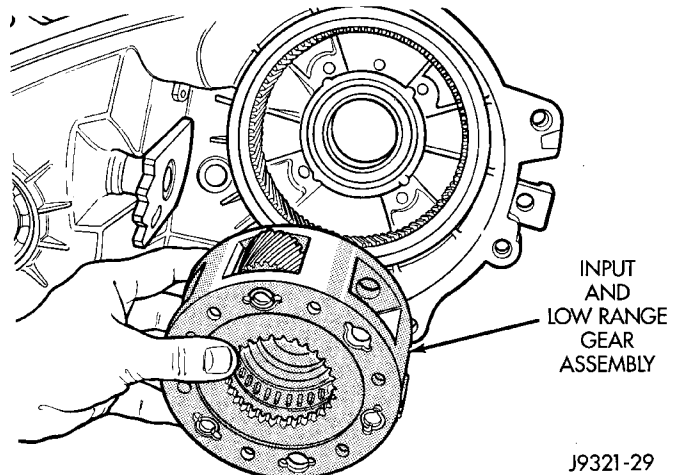

Fig. 37 Input And Low Range Gear Assembly Removal
(5) Remove input and low range gear assembly (Fig. 37).
(6) Remove oil seals from following components: